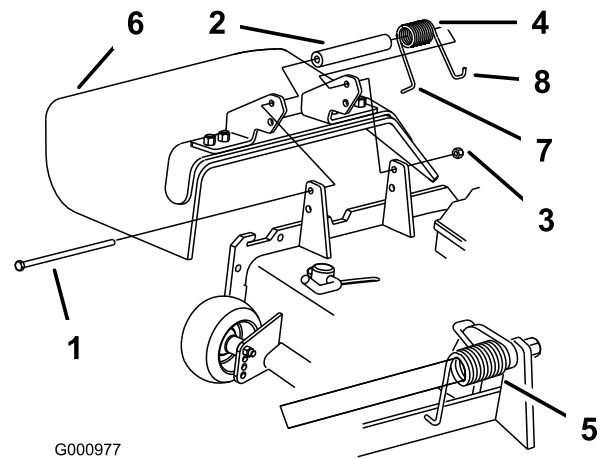

Figure 2
1. Place the spacer and spring between the grass deflector brackets (Figure 2). Place the left hand J hook end of spring behind deck edge.
Note: Make sure the left hand J hook end of the spring is installed behind the deck edge before installing the bolt as shown in Figure 2.
2. Install the bolt and nut. Place the right hand J hook end of the spring around the grass deflector (Figure 2).